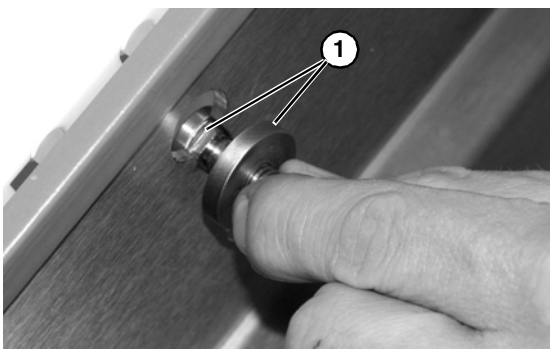

Figure 14
1. Insert carriage bolts with spacers (**Figure 14, item 1**) into slotted holes in conveyor side.